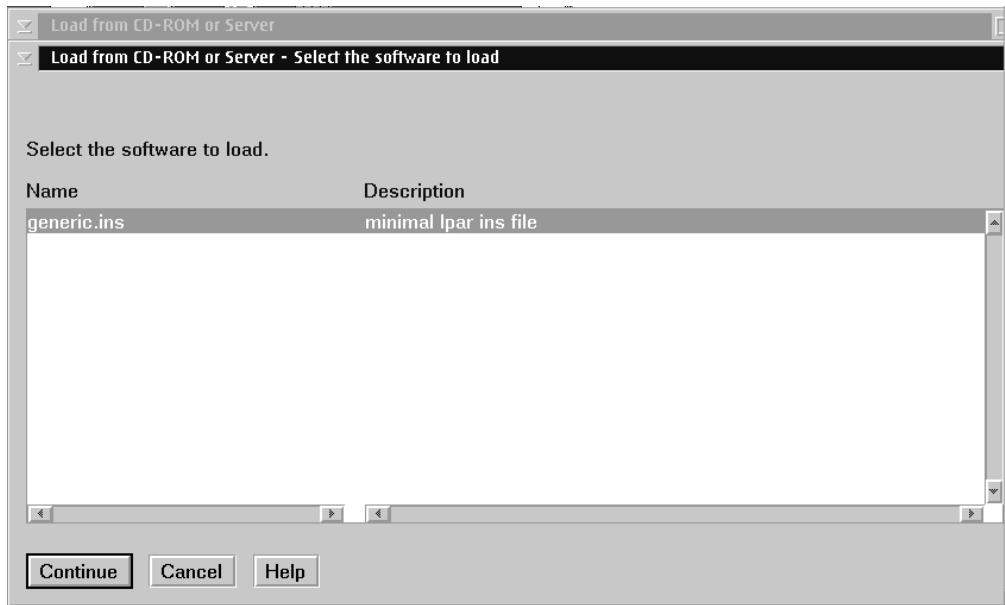

Figure 69. Select the software to load panel
7. Click **Continue** to display the “Select the software to load” panel (Figure 69 on page 380).